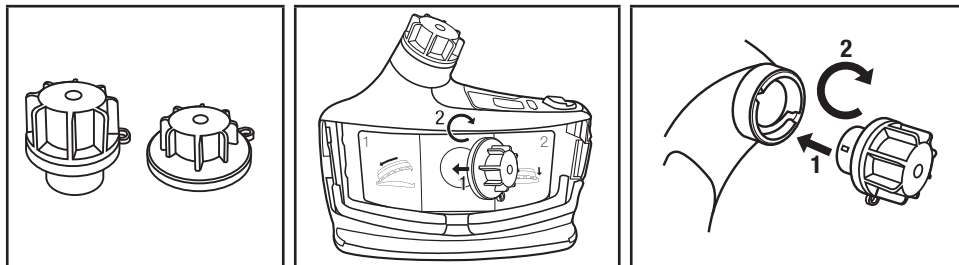

Fig. 18 – Attaching motor/blower cleaning and storage covers
- If additional cleaning is required, remove the filter/cartridge and breathing tube. To minimize material falling onto the motor/blower, remove the filter/cartridge while it is facing downward. Attach the air inlet and air outlet cleaning and storage plugs (3M™ Cleaning and Storage Kit TR-653) into the TR-600 (see Fig. 18). The TR-600 can now be rinsed under running water, immersed, or put in a respirator washer for further cleaning. Water temperature should not exceed 122°F (50°C). The plug gaskets should be inspected for damage and wear prior to each use. Worn or damaged gaskets must be replaced. Washing the Versafo TR-600 while using damaged plug gaskets may cause damage to the Versafo TR-600 and void the warranty. Blowers which have been dropped or damaged should not be immersed or put into a respirator washer due to potential water ingress. Gaskets should be replaced every 30 uses or yearly, whichever comes first, to minimize use of worn gaskets.